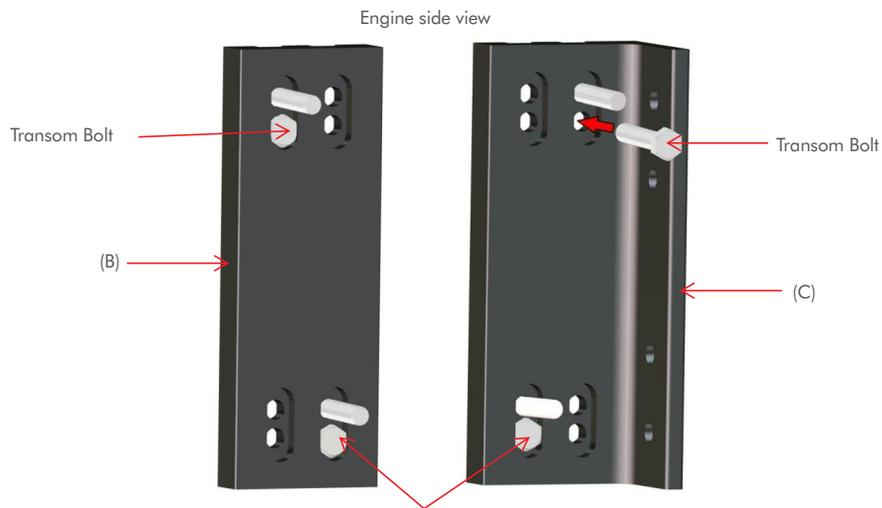

Figure 3
STEP 3: Install the transom bolts through the holes directly below the engine bolts in the M to S adapter plate (C) and shim (B) as illustrated (FIG. 3).